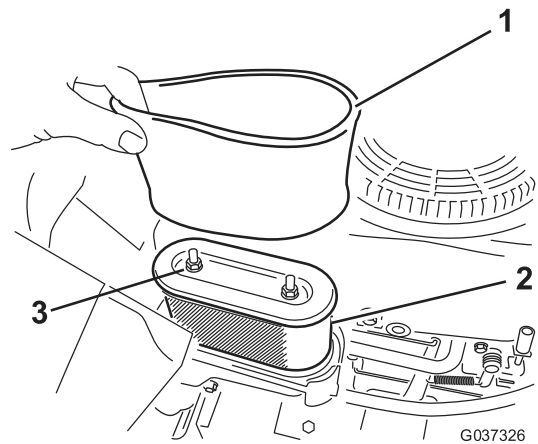

Figure 19
4. Remove the 2 nuts securing the filter assembly to the housing (Figure 19).
1. Install the foam filter onto the paper filter (Figure 19).
3. Secure the filter assembly to the housing using the 2 nuts (Figure 19).